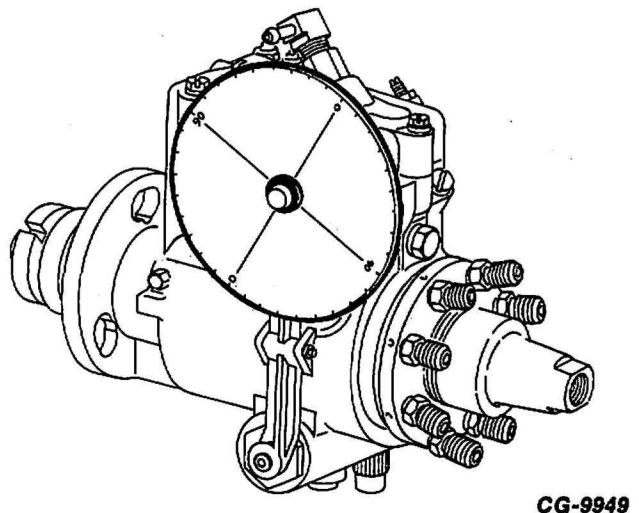

Figure 5.12. Control Lever Protractor (Stanadyne No. 22089)
- c. With control lever at 28mm3/stroke position, align 0° on control lever protractor (Stanadyne No. 22089), with center rib on rocker lever. Refer to Figure 5.12.